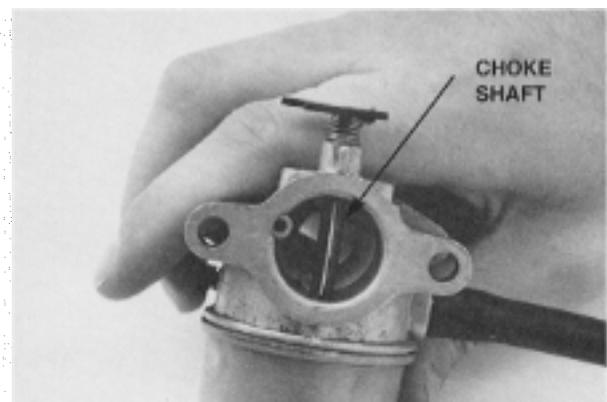

Figure 22
9. Push the choke plate into the shaft (**Figure 22**).